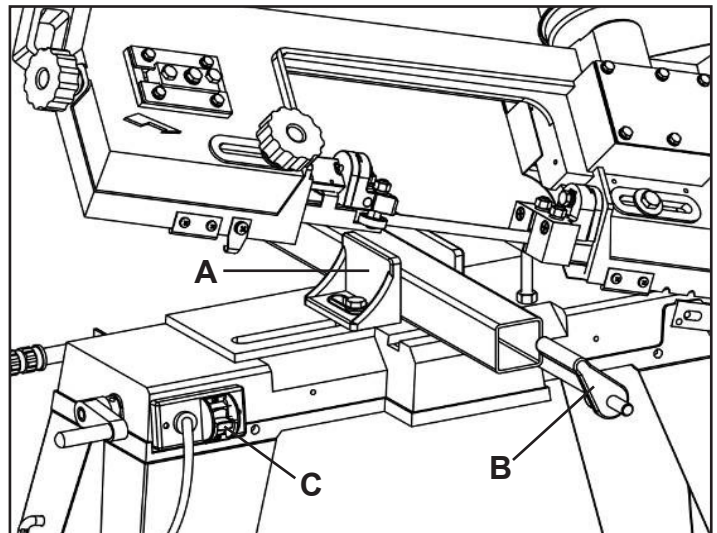

FIGURE 21
1. Clamp the workpiece firmly in the vise jaws (A-Fig.21) to ensure straight cut through the material. SEE "VISE ADJUSTMENTS" on Page 12.
2. If needed, use the work stop (B-Fig.21) to quickly and accurately cut multiple pieces of stock to the same length.
4. Turn on the saw (C-Fig.21) and let the blade reach full speed before engaging the workpiece. Never start a cut with the blade in contact with the workpiece.